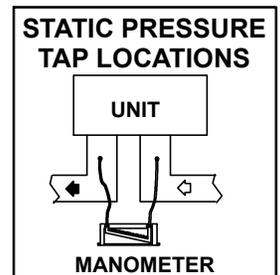

FIGURE 16
- Measure tap locations (figure 16).